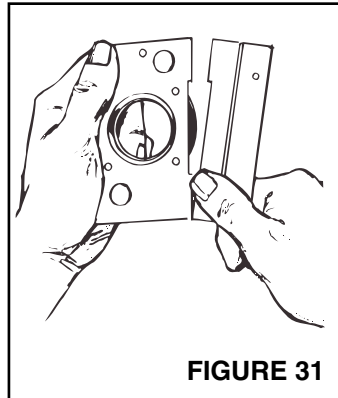

FIGURE 31
2. Refer to Figure 31. Break off nail plate at scored line.